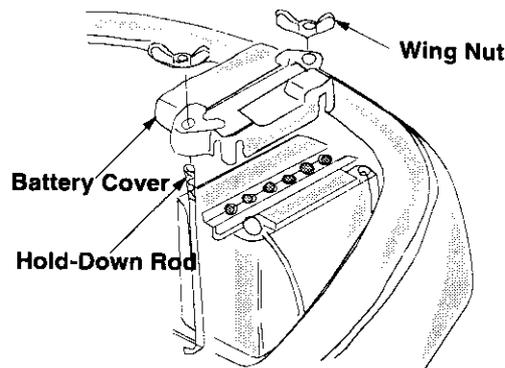

Figure 4
- Place the battery into the battery opening with positive terminal toward the rear of the unit. Make certain both the negative (black) cable and the positive (red) cable are routed up through the battery opening. See Figure 4.
- Attach the positive (red) cable to the positive terminal of the battery. See Figure 4. Secure with hex bolt and nut provided with the battery. Slide rubber boot over the positive terminal.
- Attach negative cable to the negative terminal with a hex bolt and nut provided. See Figure 4.
- through the hole in the battery tray. Pull up on the hold-down rods through the slot on the battery cover and insert one wing nut on each hold-down rod. Tighten the two wing nuts to secure the battery to the unit. See Figure 4.